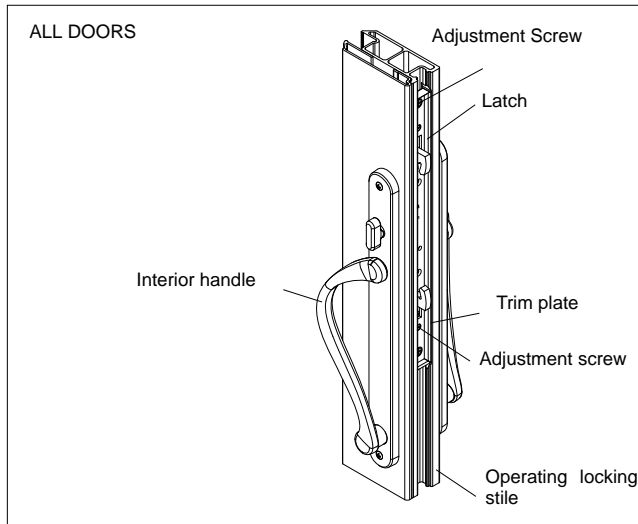
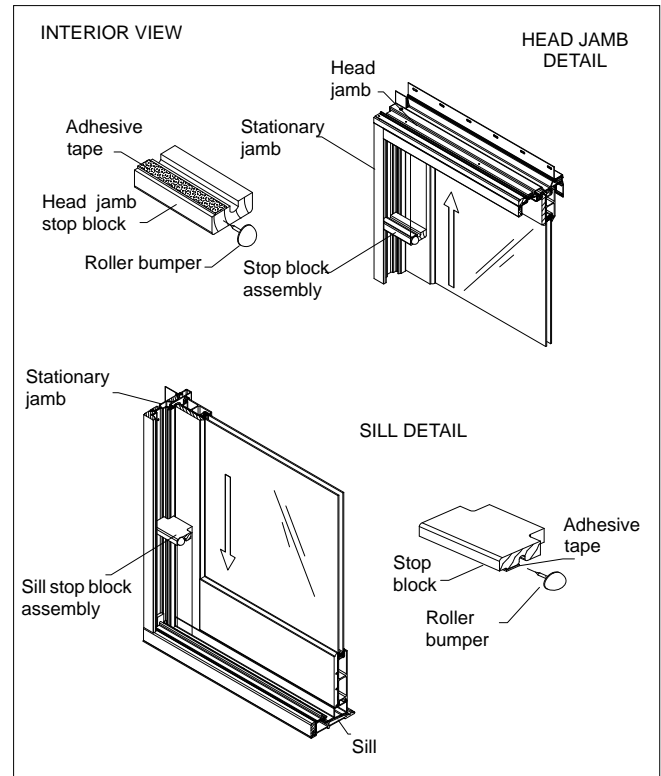

Figure 6
Figure 7
8. After the door and strike are aligned, adjust the latch pull by turning the adjustment screw to move the latch in or out of the mortise lock. The operator panel should be pulled snug by the lock, slight resistance should be felt at the end of the turn lever travel when locking if properly adjusted. See figure 6.
9. The following step does not apply to 3W OOX and XOO configurations. For bumper installation see figure 7. (For reference, adhesive tape is applied to the interior side of the block and is pressed against the head jamb or sill to attach.) Hold each block in place and determine which end to install the bumper in (bumper toward operator panel). Center the bumper on the interior side of the end and tap into block. (See figure 6.) Remove adhesive tape backing from block. Position against the stationary side jamb as shown in figure 7, and press into place. Note that head jamb and sill blocks are different.